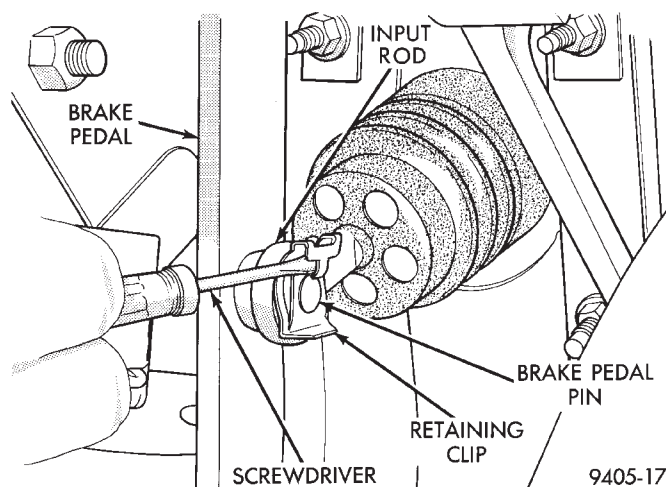

**Fig. 113 Input Rod Retaining Pin**
(16) Remove the vacuum hoses from the check valve located on the power brake vacuum booster.
(17) Locate the power brake vacuum booster input rod to brake pedal attachment under instrument panel. Position a small screwdriver between the center tang on the power brake booster input rod to brake pedal pin retaining clip (Fig. 113). Rotate screwdriver enough to allow retaining clip center tang to pass over end of brake pedal pin. Then pull retaining clip off brake pedal pin. **Discard retaining clip. Replace only with a new retaining clip when assembled.**